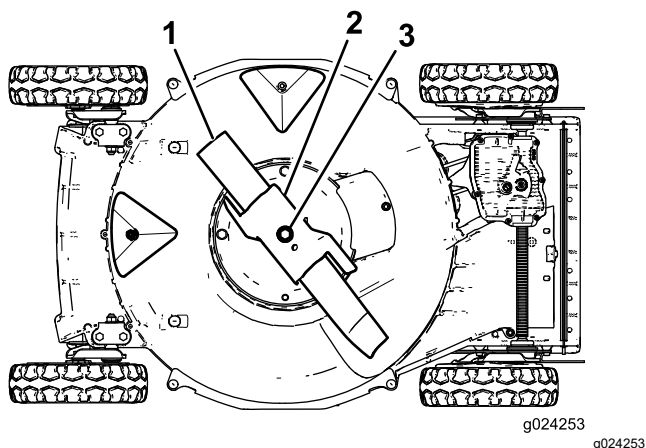

Figure 26
- Tip the machine onto its **right** side (air cleaner up) as shown in Figure 26.